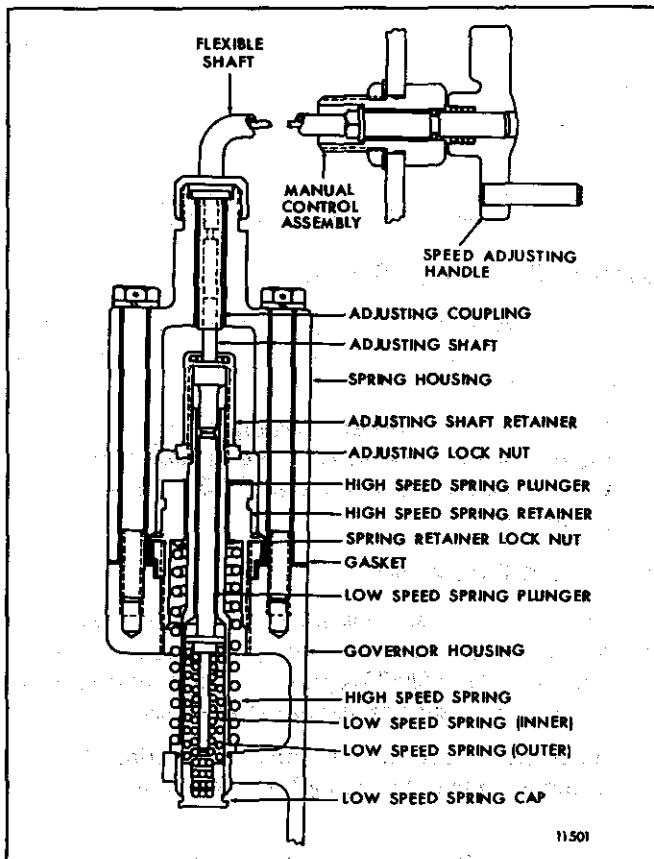

Fig. 1 - Cable Operated Governor Spring Housing and Components
10. Pack the needle bearings with grease, place a washer over each bearing and insert the control link lever between the two bosses in the housing (Fig. 1). Insert the control link lever shaft, then insert the shaft retainer in the notch of the shaft and fasten it to the housing with the retaining screw.
During highway operation, the governor functions as a limiting speed governor, controlling the engine idling speed and limiting the maximum operating speed. At the unloading area, the throttle is left in the idle speed position and the speed adjusting handle, on the cable operated governor (Fig. 1), is turned to the speed required within the above range to operate the auxiliary equipment. For the air operated governor (Fig. 3), the engine speed is changed to the speed required by increasing or decreasing the air supply pressure to the governor. The governor then functions as a variable speed governor, maintaining a constant speed when the load is constantly changing, during the unloading operation. Before resuming highway operations, the speed adjusting handle on the cable operated governor must be turned back to the stop, then turned ahead about one-quarter of a turn. The air operated governor's air supply pressure must be vented before resuming highway operations.
The variable low-speed limiting speed governor is similar to the limiting speed governor with the exception of the spring housing and its components. Therefore, disassemble the governor as outlined in Section 2.7.1 or 2.7.1.1, then disassemble the spring housing and its components (Fig. 1) as follows:
Assemble the governor as outlined in Section 2.7.1 or 2.7.1.1, then assemble the spring housing and components (Fig. 1).
8. Screw the adjusting shaft into the adjusting shaft retainer all the way in as shown in Fig. 1.
Install the governor as outlined in Section 2.7.1 or 2.7.1.1, then connect the manual control flexible shaft to the governor spring housing (Fig. 1).